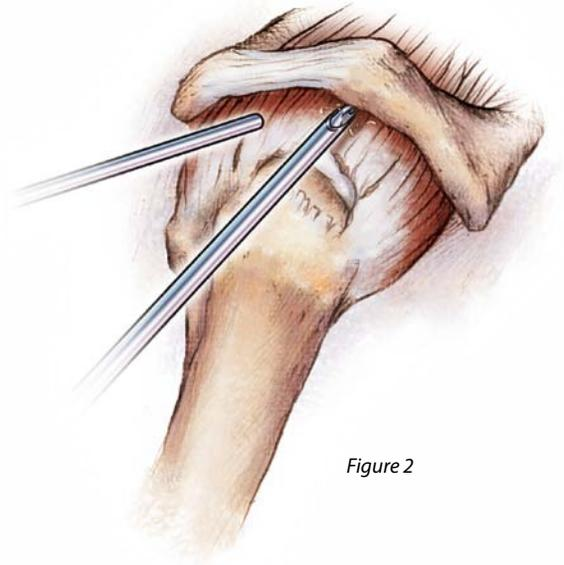

Figure 2
Visualize the subacromial space using the posterior or posterolateral portal while performing a bursectomy through the lateral portal. Use a combination of a shaver and electrocautery to visualize the subacromial space, acromion, coracoacromial ligament and rotator cuff (Figure 2). Perform any other indicated procedures in the subacromial space such as an acromioplasty, distal clavicle resection or Coracoacromial (CA) ligament release addressing AC Joint pathology prior to repairing the rotator cuff.